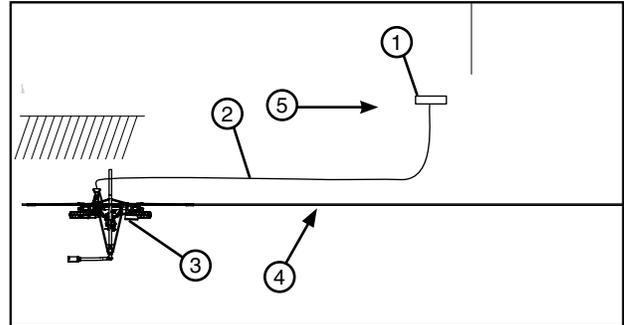

Figure 75-1 1. Power Pedestal
- (b) Position the electric cord between the cart and power pedestal so that it does not interfere with the furrow guidance arms if applicable. See Figure 75-1.